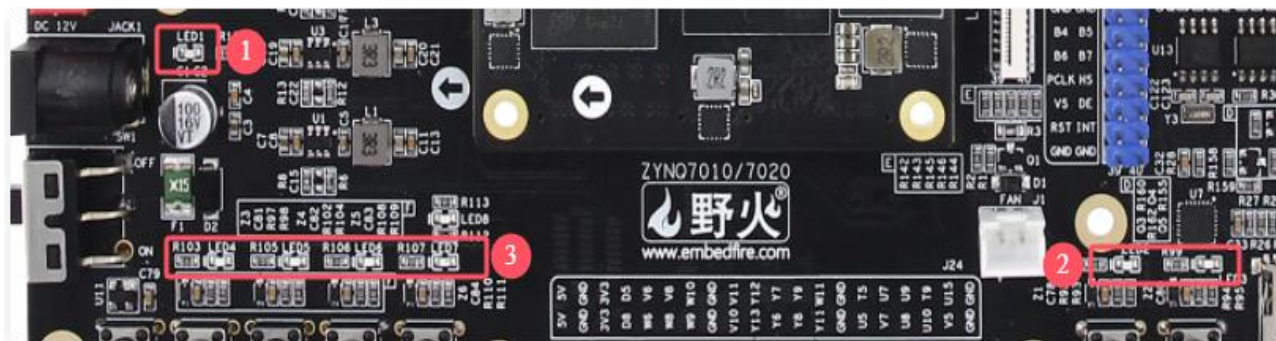

Figure 3.4-27 Actual picture of the LED light on the backplane of Haoyue development board
Figure 3.4-27 shows the actual picture of the LED lights on the development board. The ① box is the power indicator light; the ② box is 2 LED lights located on the PS side for users to use; the ③ box is 4 LED lights located on the PL side for users to use.